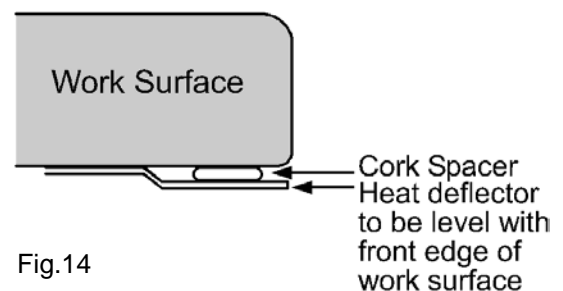

Fig.14
- Place the heat deflector flush with the edge of the work surface, (see Fig.14) with the cork spacers up over and screw into position using the screws supplied with the appliance. Failure to do this may cause damage to the underside of the work surface.